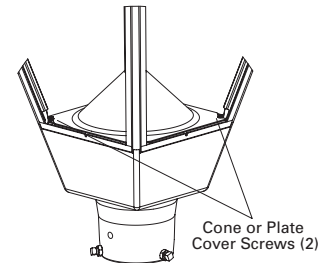

FIG. 2
1. Unscrew two screws from cover plate or cone located at fixture base. **(FIG. 2)** Remove plate or cone cover to gain access to the wiring compartment.
4. Unscrew two screws from cover plate at fixture base. **(FIG. 2)** Remove plate cover to gain access to the wiring compartment.